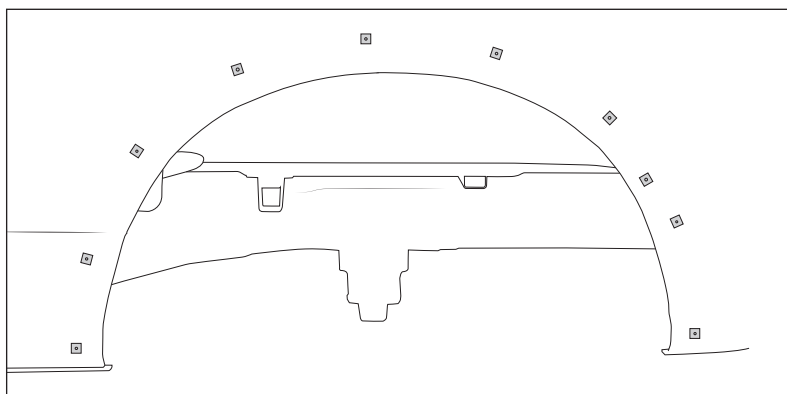

Figure 14
- H. Carefully remove flares making sure the templates transfer from the flare to the bedside (fig. 14).